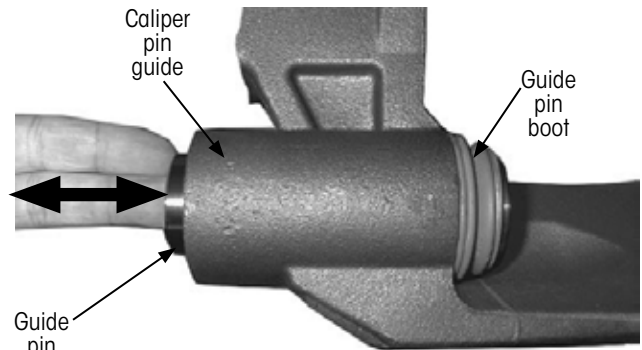

Figure 52: Removing guide pins
1. Remove the guide pins from the brake caliper (Figure 52).